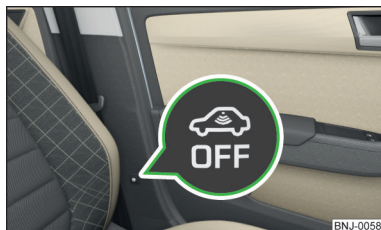

Fig. 42
- Press the symbol key  on the B column of the driver's side » Fig. 42.